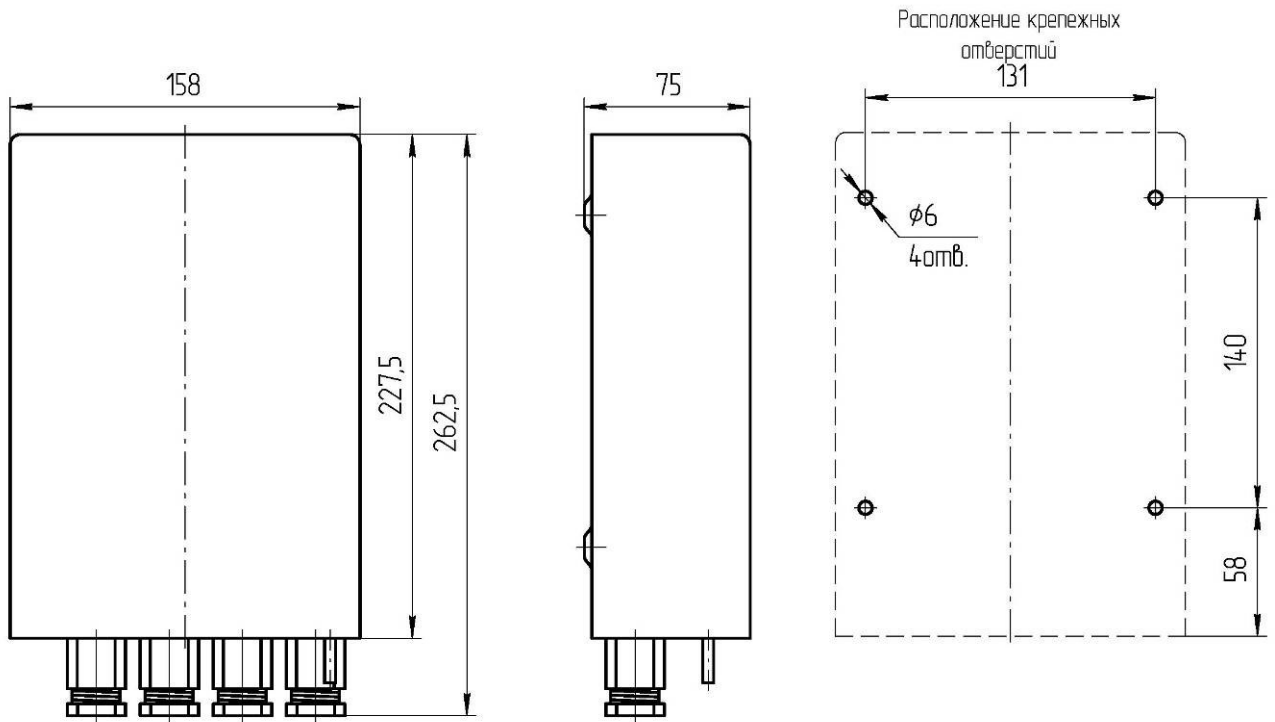

Fig. 1. Mounting dimensions of PSU
2. Fix the PSU to the wall **vertically**. Layout of case mounting should be performed in accordance with Fig.1